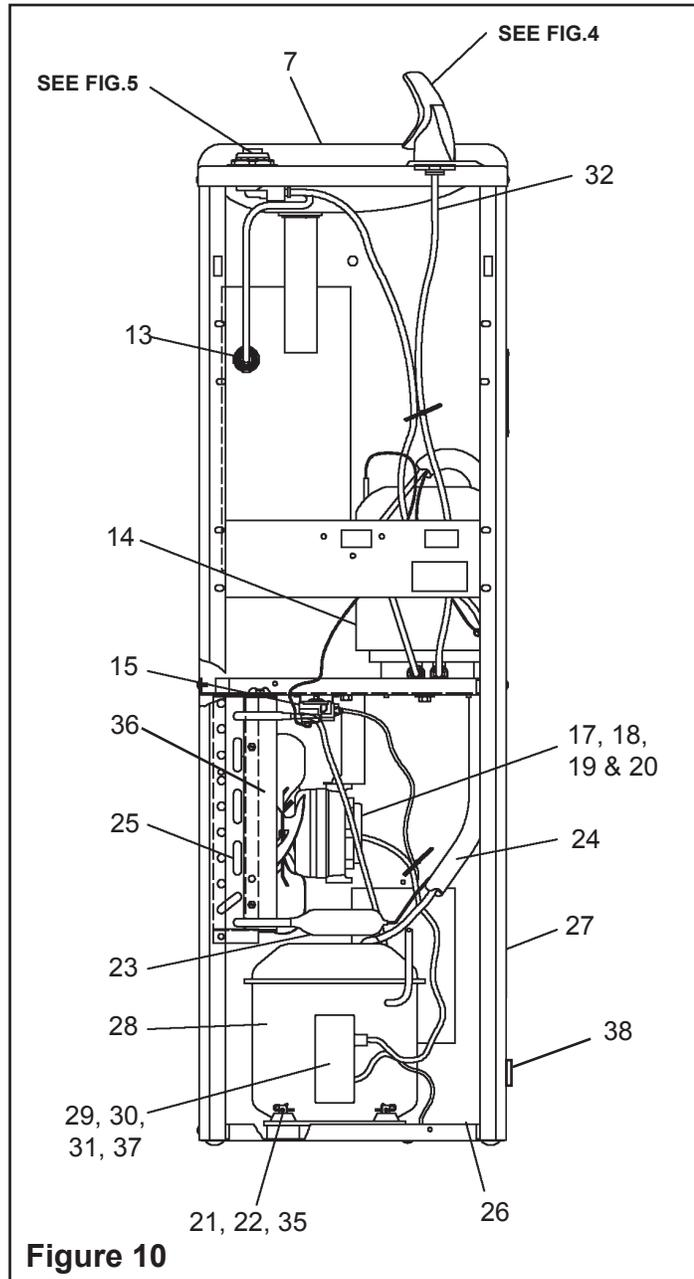

Figure 10
1. **Temperature Control:** Factory set for 50°F ± 5° (10°C ± 2.8°) water under normal conditions. To adjust water temperature, remove front panel (Item 26) by unscrewing (2) 5/16" (7.9mm) Hex Head screws. Set panel aside. Turn screw on cold control (Item 15) clockwise for colder, counter clockwise for warmer. See Figure 10.
3. **Water coming out of Bubbler continuously:** When this occurs at the end of the compressor cycle, turn the cold control warmer (Item 15) counter-clockwise 1/4 of a turn. See Figure 10.